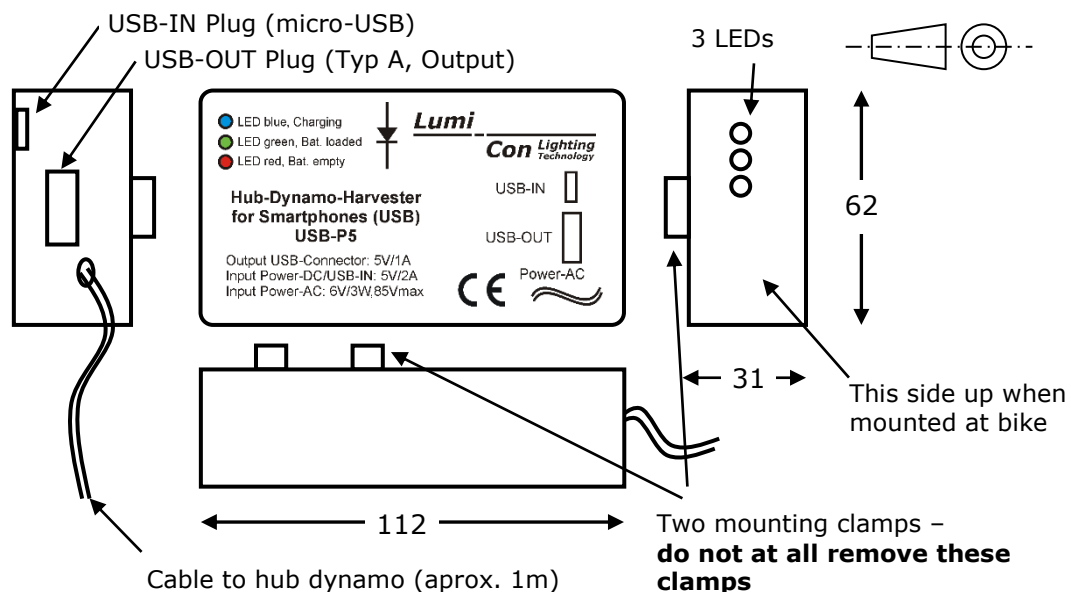

Fig. 5: Dimensions and Interfaces
**Do not at all remove the mounting clams at the back (Fig. 5).**